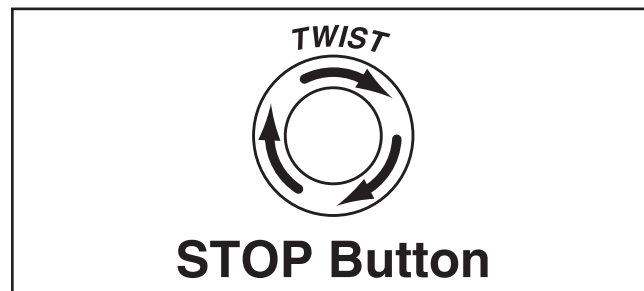

Figure 5. Resetting the switch.
5. Push the OFF button in, then twist it clockwise so it pops out. When the OFF button pops out, the switch is reset and ready for operation (see **Figure 5**).